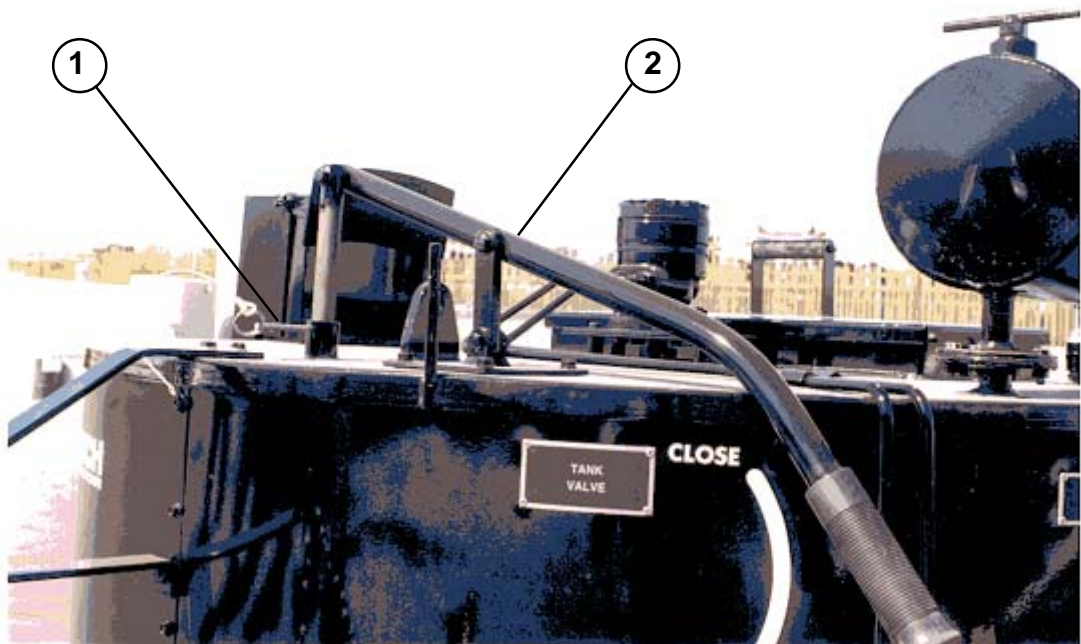

FIGURE 1
7. When material is mixing freely and the correct application temperature (375° F.-410° F.) is reached, open drain valve (labeled) by removing locking pin (1) and lowering drain valve handle (2) (see Fig. 1). When drain valve handle is fully opened the locking pin should be replaced to maintain opened position.